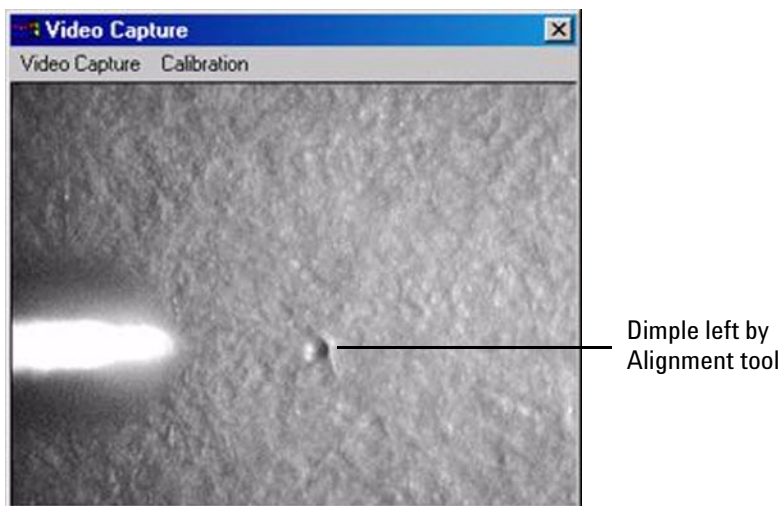

Figure 140 Dimple in paper target plate
- 8 A small dimple left by the capillary Alignment Tool should be visible on the plate video image. See the example in Figure 140.